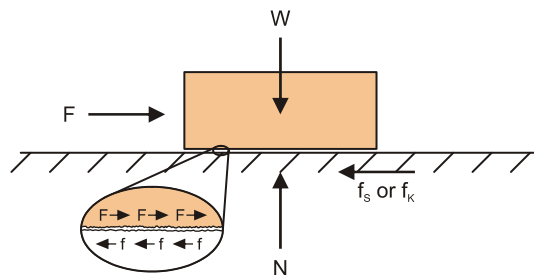

Figure 1-8
Figure 1-8 shows the forces at work if you try to slide an object like a block along a flat surface like a table. The arrows are called vectors, and they indicate the magnitude and direction of the forces applied. The (W) vector in Figure 1-8 indicates gravity's action on the book's mass, a downward force on the table. The table responds with an equal and opposite force, which is typically labeled (N) for normal force. In this case, the term normal has a special meaning - it's the force that's perpendicular to the contact surface, and it prevents the block from falling through the table. (F) is the force applied that tries to slide the block along the table. The forces of friction between the block and the table (f_s or f_k) cause the table to oppose the applied force that's trying to make the block slide. If you're not pushing hard enough to make it slide, the force comes from static friction (f_s). If you have pushed hard enough to overcome the force of static friction and the block starts moving, the slightly weaker force of kinetic friction (f_k) takes over.
Figure 1-8 also shows a close-up of the contact surfaces, where little components of the force you apply to the block and the frictional forces are opposing each other. While some of the frictional forces actually do come from the surface's roughness, there is also interaction between the molecules in the two surfaces that govern frictional forces.
When the surface is tilting, the normal force takes some extra calculating, but when it's horizontal to the ground, like in Figure 1-8, the normal force is just the object's weight on the surface. The force to start it sliding is the coefficient of friction multiplied by the object's weight, and the force to keep it sliding is the coefficient of kinetic friction multiplied by the object's weight.